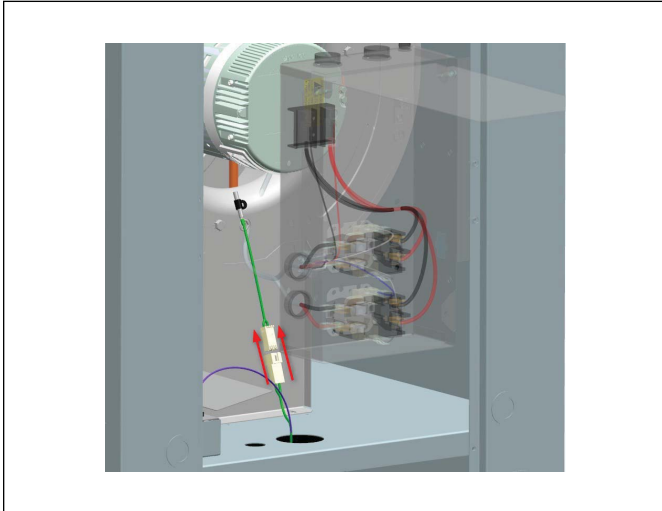

Figure 42
2. Disconnect 2 pin connectors from each other and discard ~6" section of harness that contains the barrel shaped thermistor as show in Figure 42.